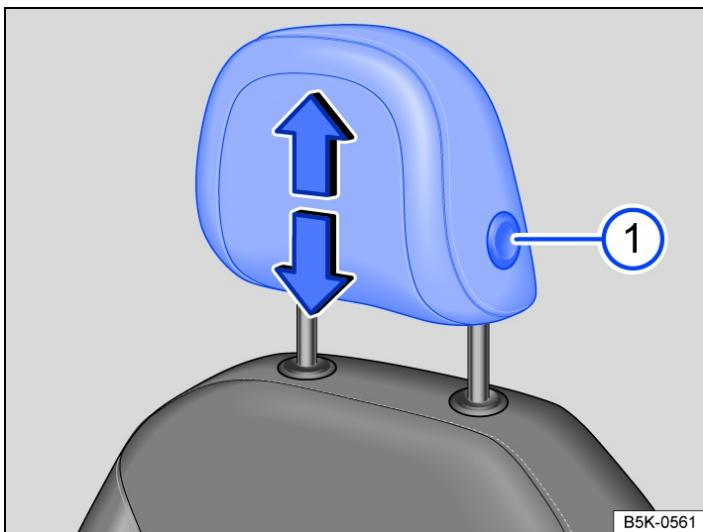

Fig. 1 Front head restraint: adjusting.
- While pressing the → *Fig. 1* 1 button, push the head restraint up or down in the direction of the arrows.